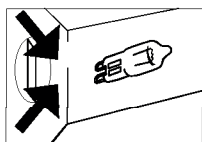

Figure 1
*You can find the shelf order of the oven on Page 17, Figure 1.